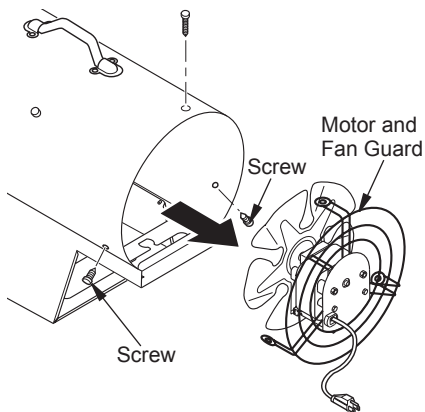

Figure 9 - Replacing Motor and Fan Guard Into Heater
11. Place motor and fan guard into rear of heater shell. Make sure power cord is properly located (see Figure 9).
12. Insert three screws through heater shell and into fan guard (see Figure 9). Tighten screws firmly.
8. Place motor and fan guard into rear of heater shell. Make sure power cord is properly located (see Figure 9).